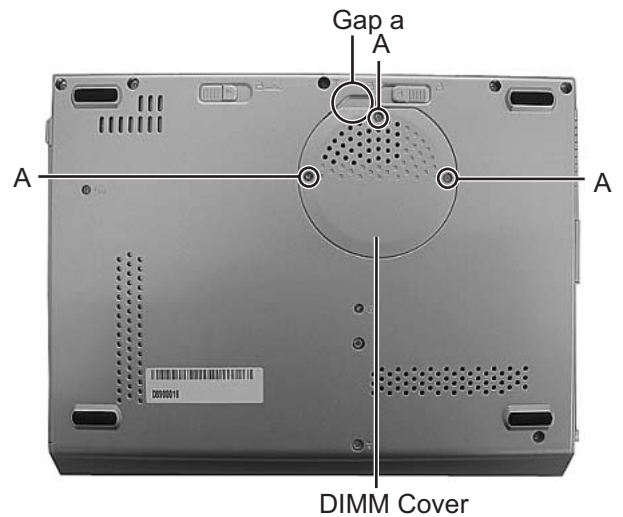

Fig.1
3.1.1 Removing the DIMM cover(See Figure 1)